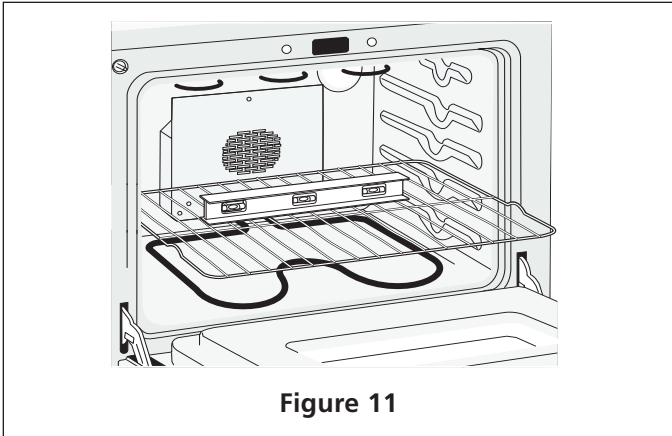

Figure 11
1. Install an oven rack in the center of the upper oven (see Figure 11).